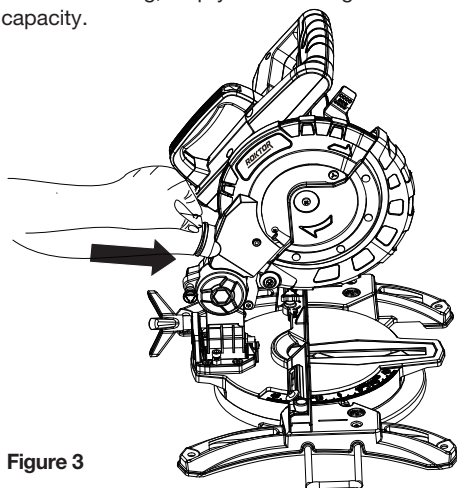

Figure 3
2. DUST EXTRACTION PORT (SEE FIG. 3)